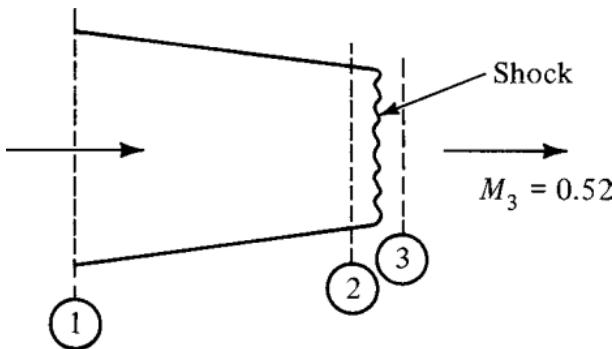

Figure P6.5
- 6.5** Air flows in the system shown in Figure P6.5. It is known that the Mach number after the shock is  $M_3 = 0.52$ . Considering  $p_1$  and  $p_2$ , it is also known that one of these pressures is twice the other.